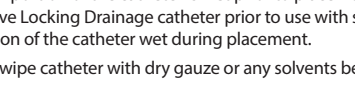

Figure 4
8. Once placement is confirmed, and the suture locking mechanism has been rotated to the most distal position, press the suture locking mechanism into the hub to secure it. The suture locking mechanism is now locked into position. See Figure 4.